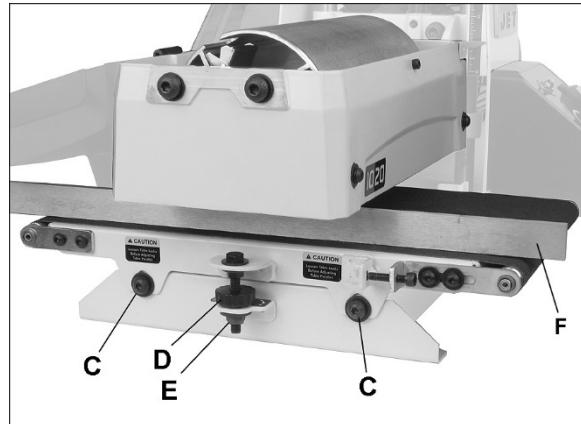

Figure 8-3: drum alignment
3. Position gauge (F, Figure 8-3) between drum and conveyor table at *outboard* side of drum.
1. Loosen both table locking screws (C, Figure 8-3) with 5mm hex wrench.
To e.g. raise outboard end of table, loosen lock nut (E, Figure 8-3) and rotate knurled nut (D, Figure 8-3) clockwise (+).